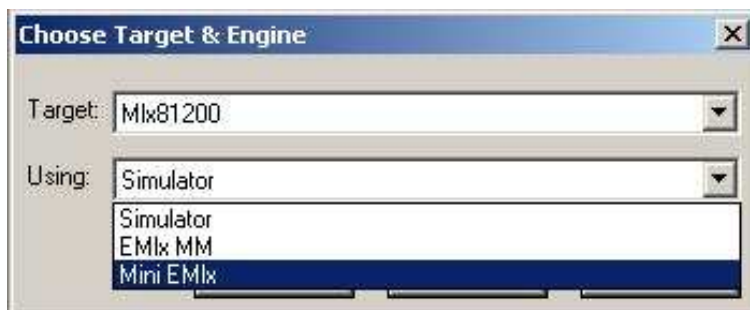

Fig. 6 Interactive Debugger: Selecting Simulator or Emulator mode
- Select target 'Mlx81200' and 'Simulator' from 'Tools' -> 'Target & Engine' menus as shown in Fig. 6
- Select target 'Mlx81200' and 'Mini EMlx' from 'Tools' 'Target&Engine' menus as shown in Fig. 6